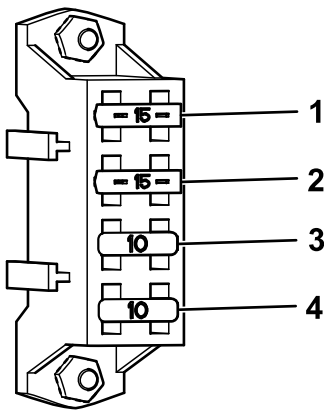

Figure 54
4. Replace any blown fuses (Figure 54).